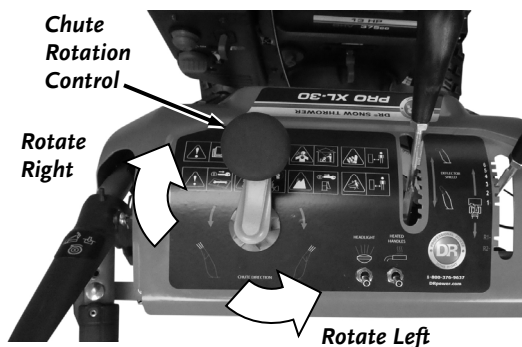

Figure 32
1. Rotate the Chute Rotation Knob until the desired angle is achieved (**Figure 32**). Rotate clockwise to rotate the Chute to the right. Rotate counterclockwise to rotate the Chute to the left.